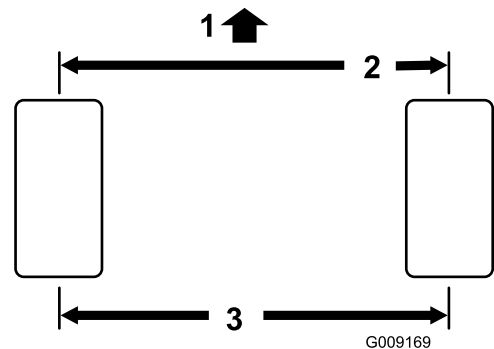

Figure 50
- Measure the center-to-center distance (at axle height) at the front and rear of the steering tires (Figure 50). The measurement must be within 0 ± 3 mm (0 ± 0.12 inch) at the front of the tire then at the rear of the tire. Rotate the tire 90 degrees and recheck the measurement.